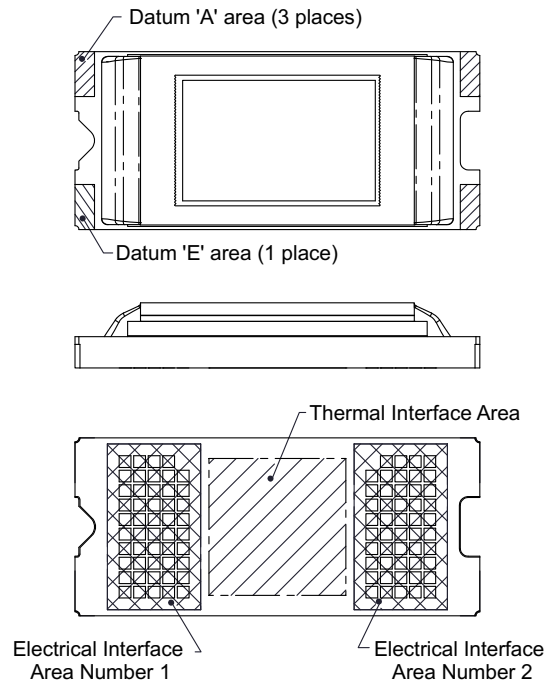

图 7-3. System Interface Loads for FQD
- (1) See and 图 7-3 for diagrams.
- (2) See Mounting Concepts DLP4500FQD.